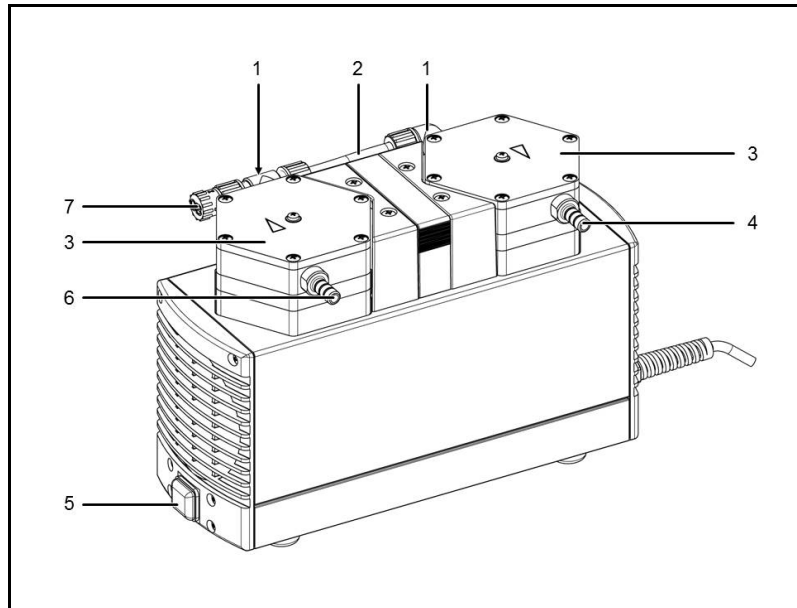

Fig. 3: Diaphragm pump (shown: pump N 840.3 FT.18G)
1. Disconnect the tubes in the inlet (Fig. 3/6) and the outlet (4) of the pump.
2. Open the connection (2) of the pump heads.
3. Screw out the connecting piece (1) of the vacuum side head.
5. Remount the connection (2) between the both pump heads.
- Switch on pump with mains switch (see Fig. 3/5)
- Switch off pump with mains switch (see Fig. 3/5).